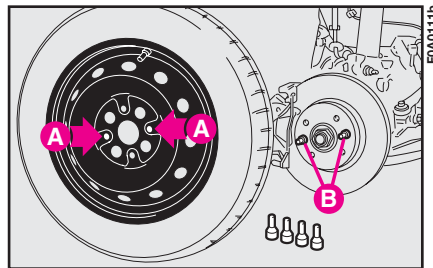

fig. 10
16) Fit the spare wheel making the holes **A**-fig. 10 coincide with the respective centring pins **B**.